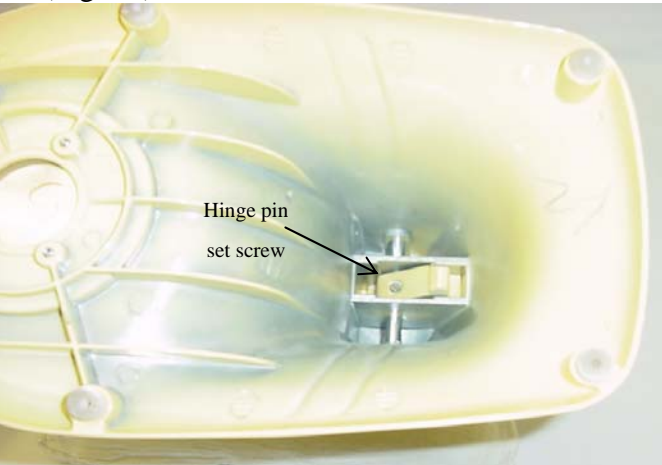

Fig. 70 The set screw in the bottom of the pedestal should clear the hinge pin.
A. If pedestal is removed, check the hinge pin. If it is galled from failure to loosen the set screw, replace it (Fig. 70).
E. Using a flat blade screwdriver, tighten the hinge pin set screw up inside of the pedestal (Fig. 70).